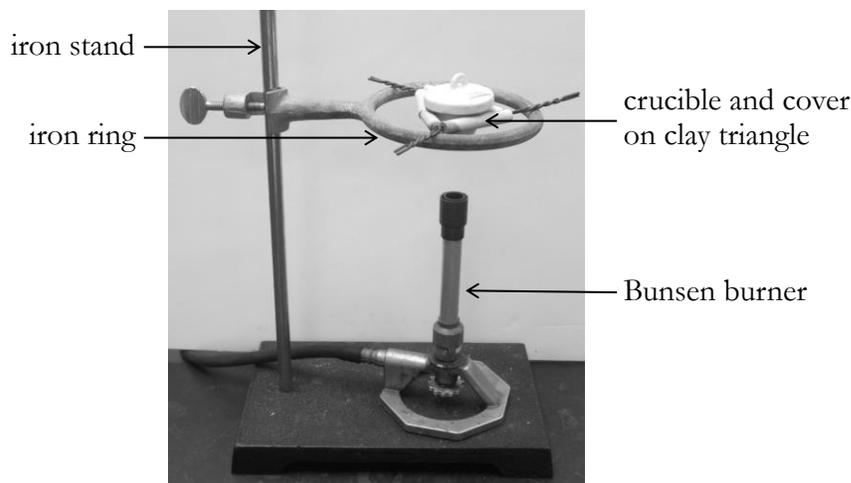

Figure 2. Experimental set-up for empirical formula determination
1. Obtain a clean, dry crucible with cover. Prepare the experimental set-up as shown on Figure 2.